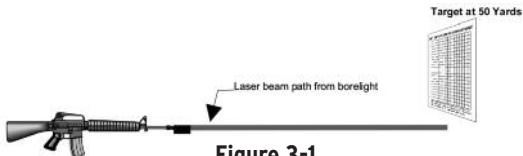

Figure 3-1
1. The borelight, when properly aligned in the weapon barrel, projects a laser point on the target that is in line with the axis of the barrel (e.g. the laser light travels in a straight line from the weapon barrel to the target). See Figure 3-1.